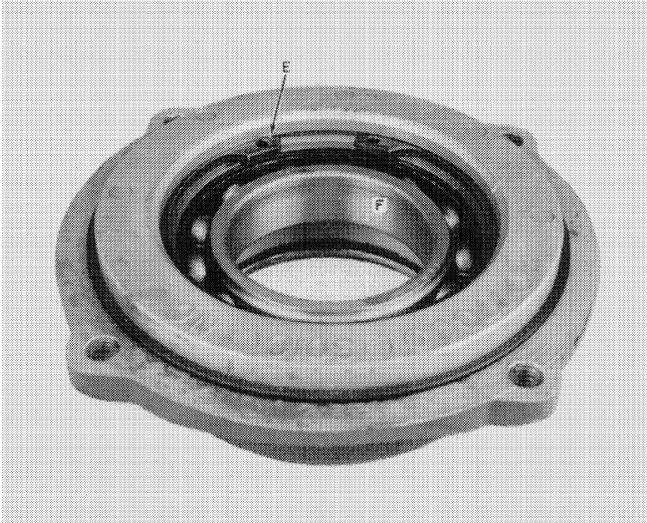

FIGURE 1-19
7. Remove bearing retaining ring, E, Figure 1-19. Remove bearing, F.
1. Install bearing, F, and retaining ring, E, Figure 1-19, in the front plate.